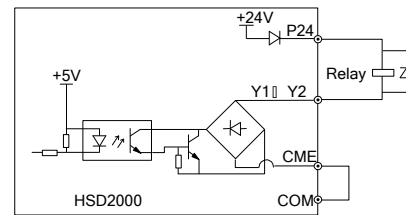
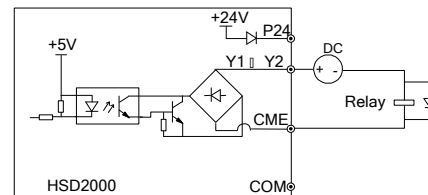

Figure 4-21: Multi-function Output Terminal Connection 1
Figure 4-22: Multi-function Output Terminal Connection 2
5. For not 24V relay of Figure 4-21 and Figure 4-22, applicable resistor shall be selected as relay parameters. Serial shall be implemented in relay loop.